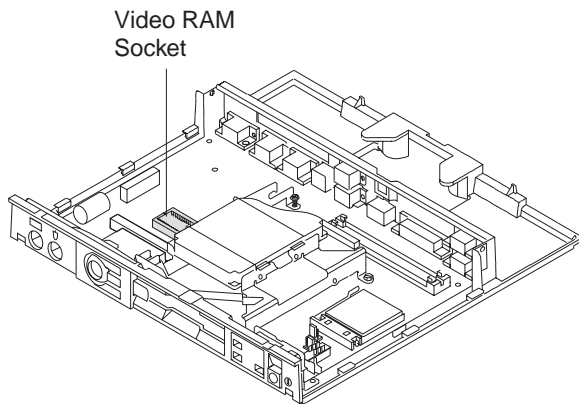

Figure 3-39. Video RAM Socket Location
- 4 Insert one side of the extraction tool (part number 25F9651) into the extraction cavity located at one end of the chip carrier socket. See Figure 3-39 and Figure 3-40.